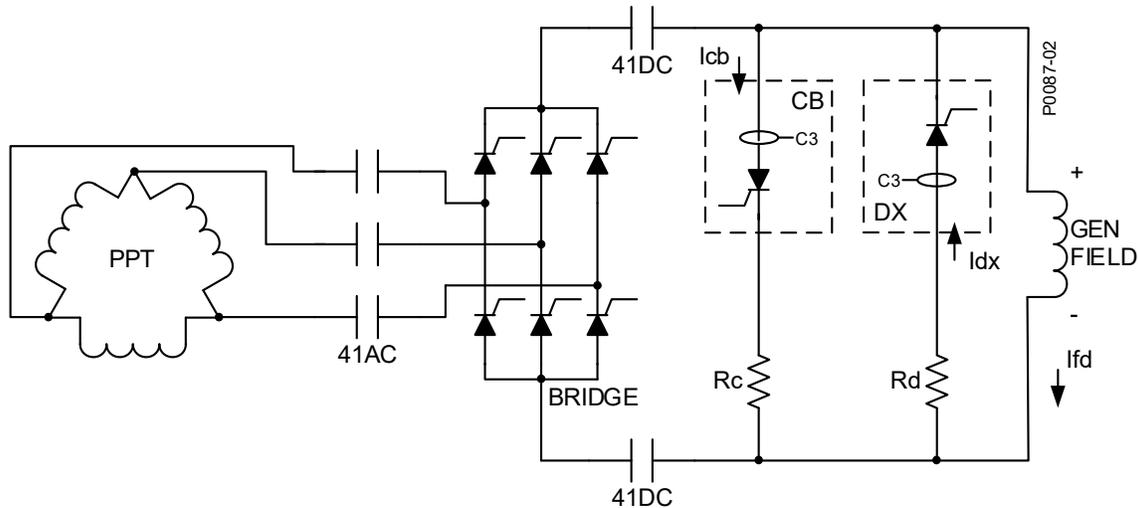

Figure 2. Typical Application
Figure 2 illustrates a typical excitation system using two DXCB-2 modules. One module is operating in de-excitation (DX) mode and the other is operating in crowbar (CB) mode.